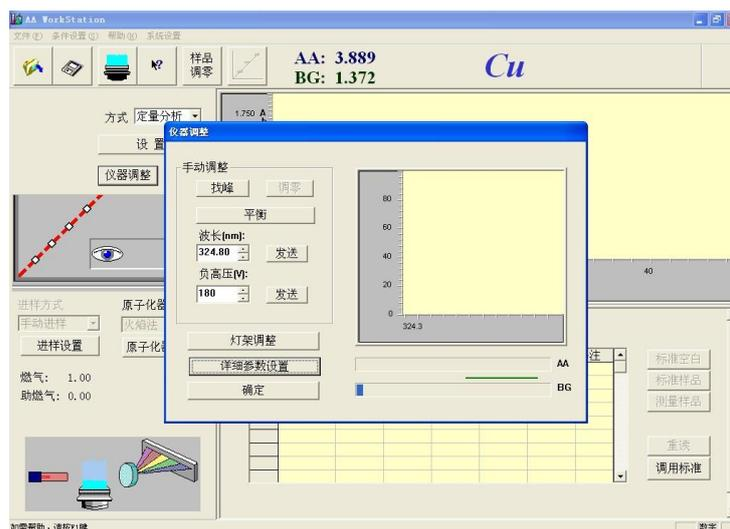

Figure 6-15
6. Press "OK", and the screen for light source adjustment will appear as shown in Figure 6-15. See "**Light source correction**" for the steps.